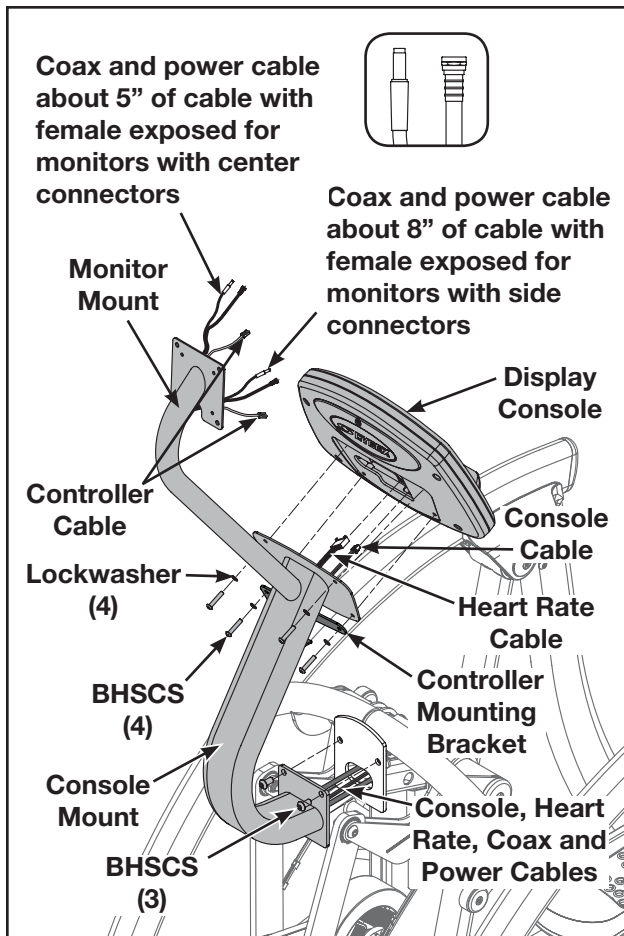

Figure 11
- A. Locate the console mount (A).
- C. Insert the cables into the bottom of the console mount (A) until the cables exit the top of the console mount opening. See Figure 11.
- A. Position the console mount (A) on the main frame assembly and hand thread each of the three BHSCS. See Figure 11.
- A. Route the coax and power cable up through the monitor mount until cable exits the top. See Figure 11.
- B. With 5" or 8" of coax and power cables exiting the top of the monitor mount, pull the extra coax and power cables out of the bottom of the main frame. See Figure 11.
- A. Connect the console and heart rate cables (exiting the top of the console mount) to the display console. See Figure 11.
- B. Using two screws and lock washers, secure the top of the display console to the console mount. See Figure 11.
- C. Attach the controller mounting bracket to the bottom of the console mount using the remaining two screws and lock washers. See Figure 11.